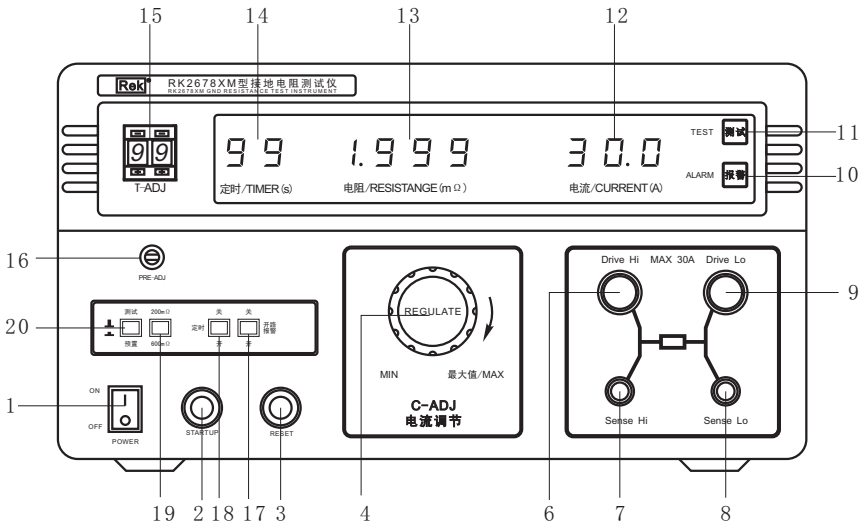

Fig. 1: Schematic chart of RK2678XM panel
1. Description of panel (see Fig. 1)